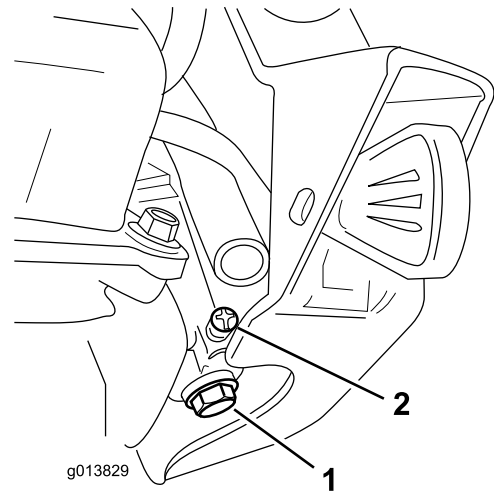

Figure 29
- B. Unscrew, but do not remove, the small screw on the side of the carburetor fuel bowl (Figure 29) until the fuel begins to drain from the carburetor.